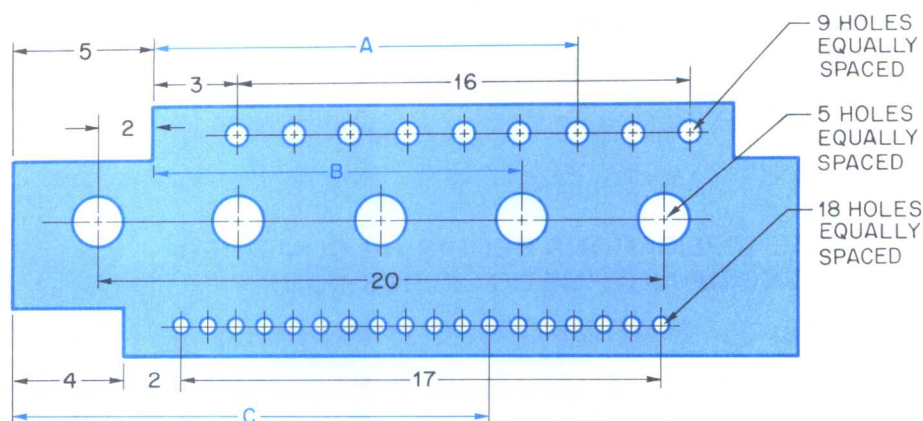

Fig. 1-6
3. The drill jig shown in figure 1-6 is laid out by a machine drafter. All dimensions are in centimetres.